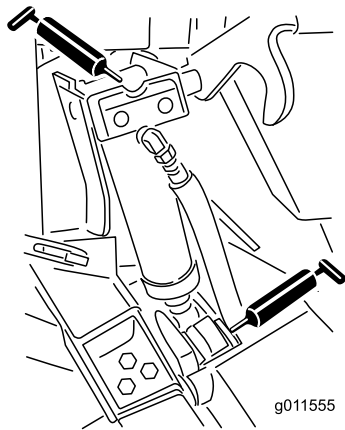

Figure 70
- Lift cylinder bushings (4) (Figure 70)